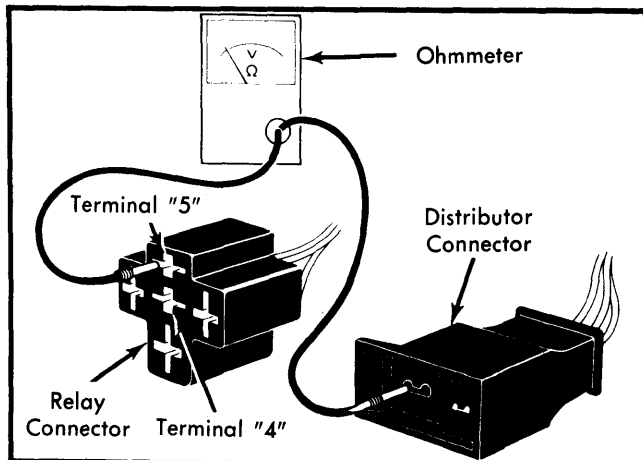

Fig. 7 Ohmmeter Hookup for Checking Impulse Sender Coils
1) Be sure impulse sender coil feed wires have not been cut. Disconnect the 5-wire relay connector and the 3-wire distributor connector (2 black wires, 1 gray). See Fig. 7.